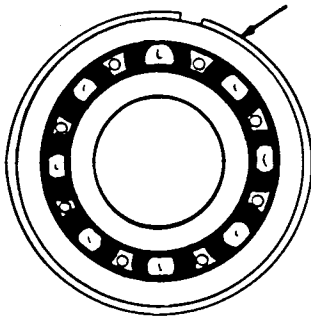

Fig H1.46
- (6) Refer to Fig H1.46. Remove the bearing spring ring.